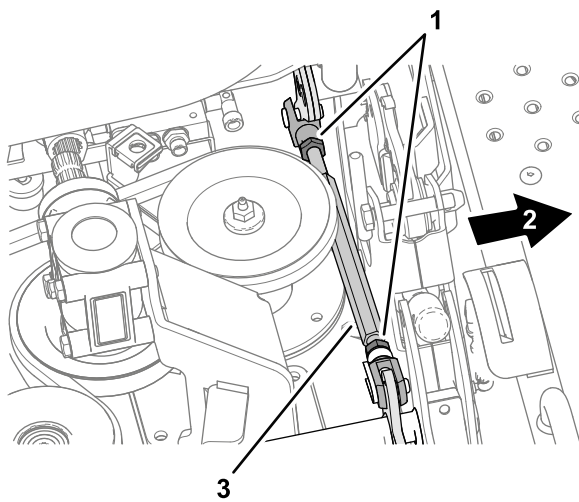
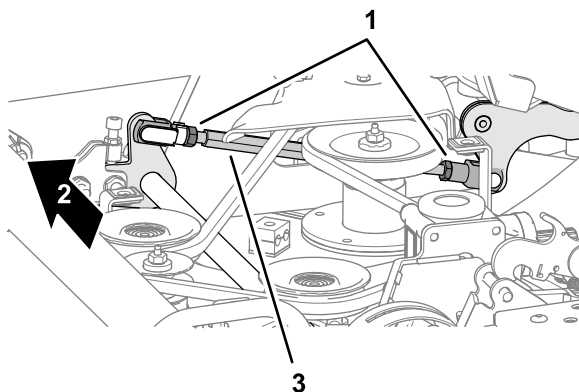

Figure 128
Figure 129
- B. Loosen the jam nuts for the deck-tilt adjusters (Figure 128 and Figure 129) at each side of the deck.